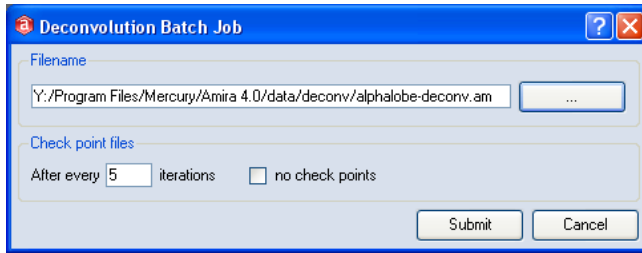

Figure 1.6: Dialog for submitting a deconvolution job.
- Press the *Batch Job* button of the *Action* port. A dialog as shown in Figure 1.6 pops up.